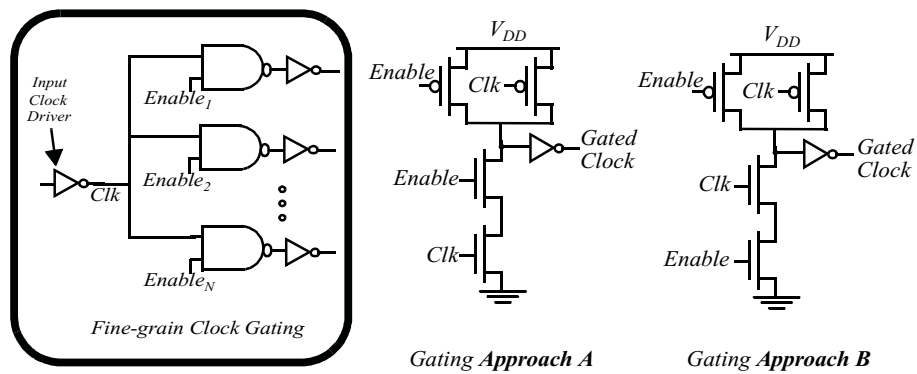

Figure 0.3 Jitter in clock gating
b. Consider a Gated Clock implementation where the clock to various logical modules can be individually turned off as shown in Figure 0.3. (i.e., $Enable_1, \dots, Enable_N$ can take on dif-